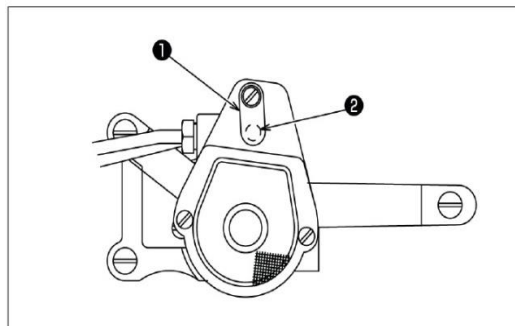

Fig.7
In the standard state, bypass hole (2) is fully closed with the adjusting plate (1). The wider bypass hole (2) is opened, the less the oil quantity becomes. See fig.7.